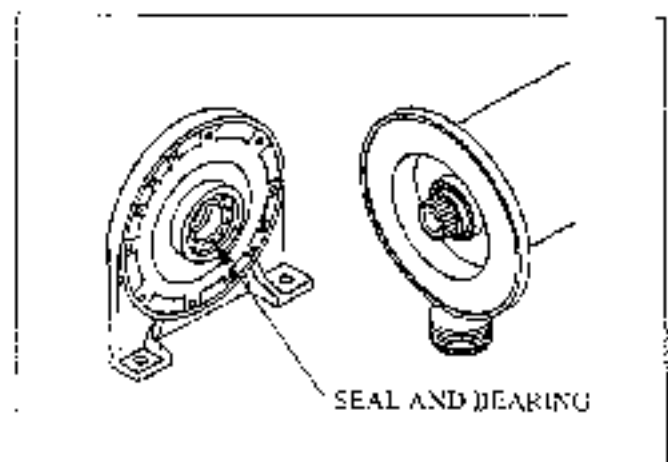

Figure 24
1. Clean the bearing and oil seal with a suitable solvent and dry with compressed air. Do not spin the bearing. Lubricate the oil seal with a light coating of grease. Inspect the seal race on the drum hub for scoring or roughness. Smooth the race with fine emery cloth. Replacement is possible if necessary. Install the bearing retaining ring, and oil seal into the final drive mount. See Figure 24.